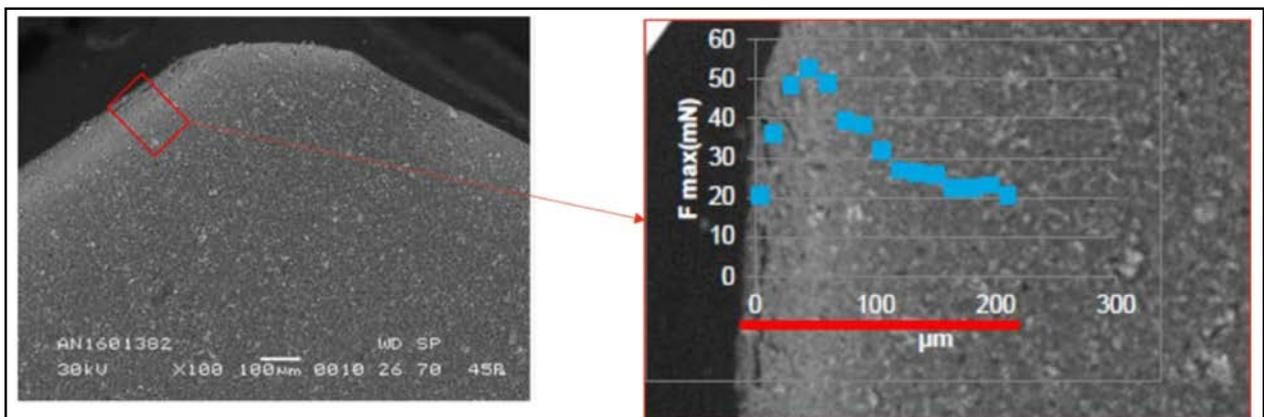

Figure 15 LNP nano-touch measurement.
Figure 15 shows a typical measurement of the macro-mechanical properties in the edge areas of an RSS after long-term dynamic tests. Force (F) is required to insert the nano-indenter through the cross-section.